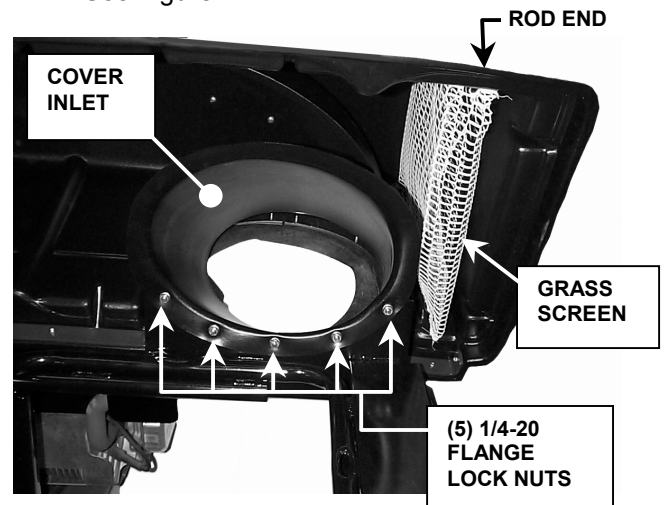

FIGURE 1.11
- A. The grass screen fits into a groove molded into the right side of the top cover and is held in place with the exposed end of the frame rod. Slide the screen and frame into the groove with the exposed rod end towards the rear. Place exposed rod end into hole in cover. See Figure 1.11.
- A. Attach cover inlet to plate on frame using (5) 1/4-20 x 1/2" carriage bolts and (5) 1/4-20 flange lock nuts. Insert head of bolts one at a time through the plate in the frame and align with holes in the inlet. Loosely secure with flange lock nuts. When all (5) have been installed, tighten each securely. See Figure 1.11.